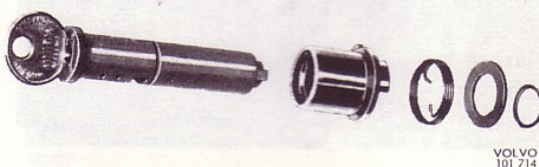

Fig. 16. Press-button in door lock dismantled.
2. Remove the circlip, see Fig. 16.